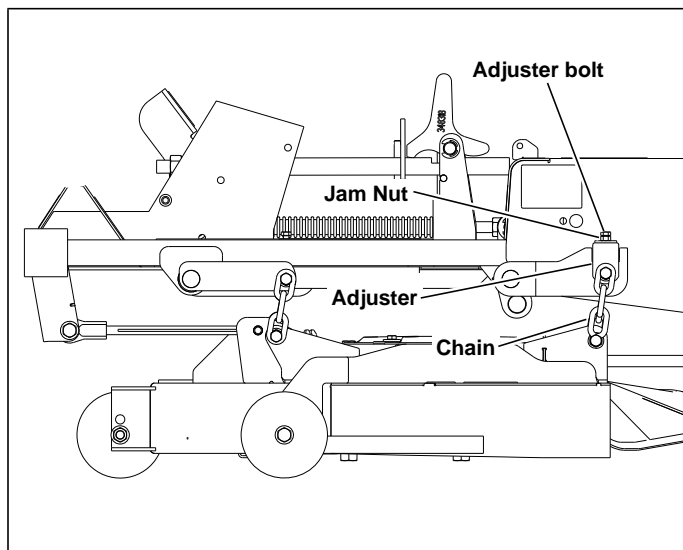

Figure 6-6
25. Loosen the 5/16" jam nut on the adjuster lift chain, and back the adjuster bolt out to allow the adjuster to move up and down freely. Figure 6-6
27. Tighten the adjuster bolt jam nut to prevent the adjuster bolt from moving. Figure 6-6
28. Tighten the hardware holding the chain and adjuster onto the deck lift arm. Figure 6-6